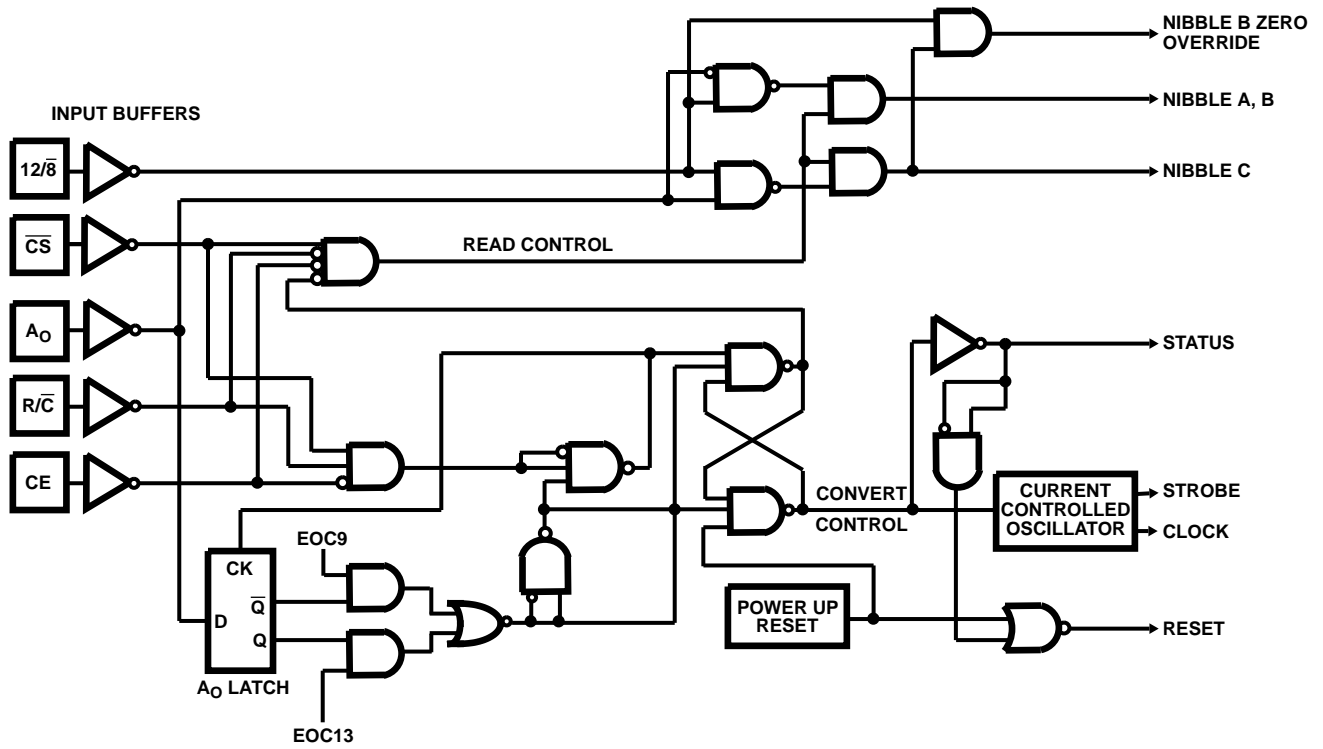

FIGURE 7. HI-774 CONTROL LOGIC
The HI-X74(A) includes logic for direct interface to most microprocessor systems. The processor may take full control of each conversion, or the converter may operate in the “stand-alone” mode, controlled only by the R/C input. Full control consists of selecting an 8 or 12 bit conversion cycle, initiating the conversion, and reading the output data when ready—choosing either 12 bits at once or 8 followed by 4, in a left-justified format. The five control inputs are all TTL/CMOS-compatible: ($12/8$, \overline{CS} , A_O , R/\overline{C} and CE). Table 1 illustrates the use of these inputs in controlling the converter’s operations. Also, a simplified schematic of the internal control logic is shown in Figure 7.